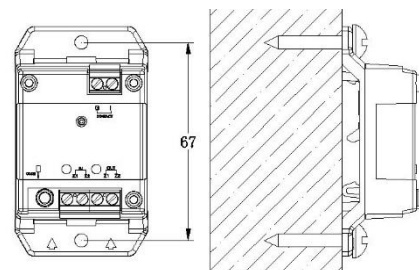

Fig. 3
- (3) The module can also be wall mounted by 4 mounting screws as shown in Fig. 3. Minimum mounting space is 67 mm.